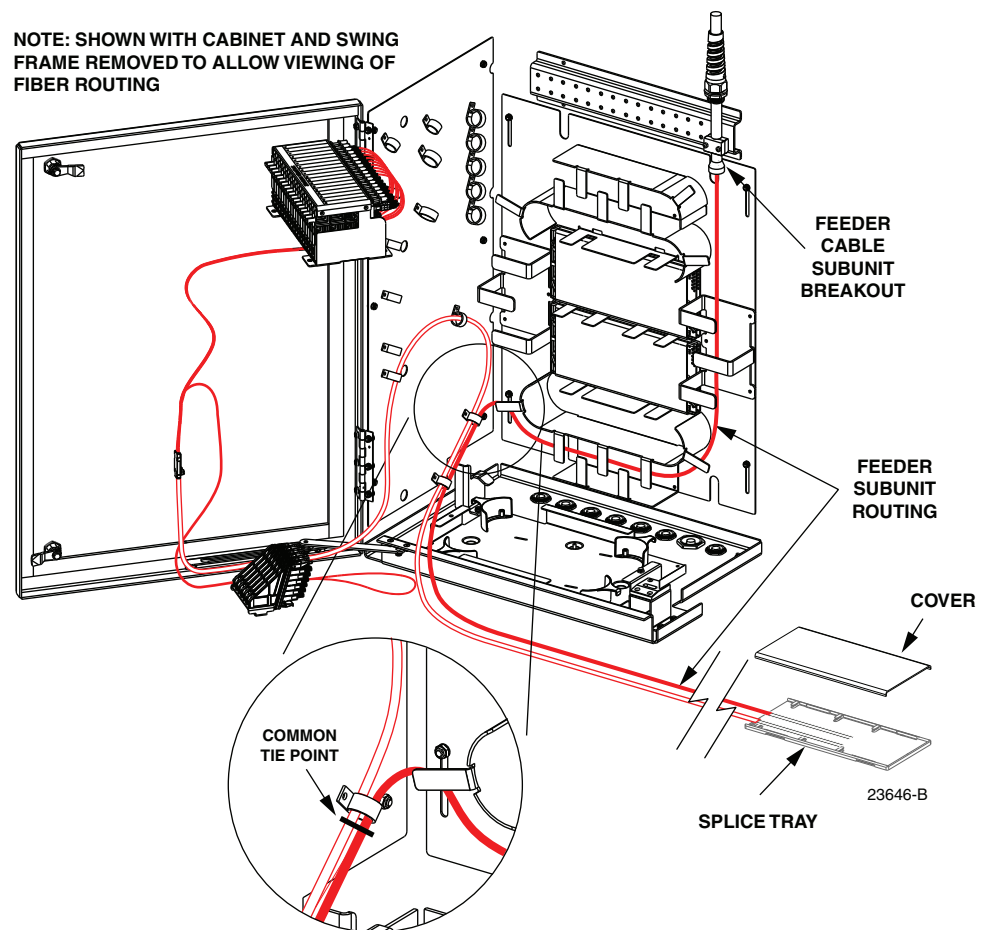

**Figure 26. Feeder Splice Tray and Feeder/Splitter Fiber Routing**
1. Locate the feeder splice tray which is mounted at the bottom of the cabinet, as shown in Figure 26, and locate the splitter fibers which are routed to the feeder splice tray.